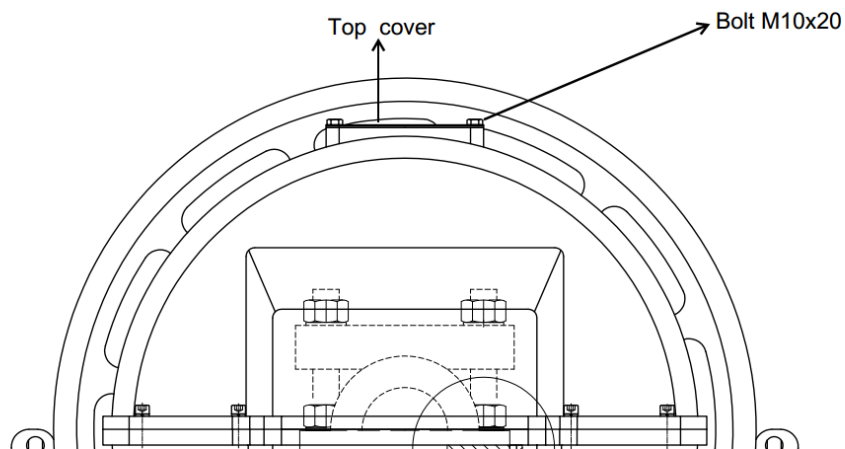

Figure 20 Remove top cover
3. Remove the two Bolts M10X20 and then remove the Top Cover. See Figure 20.